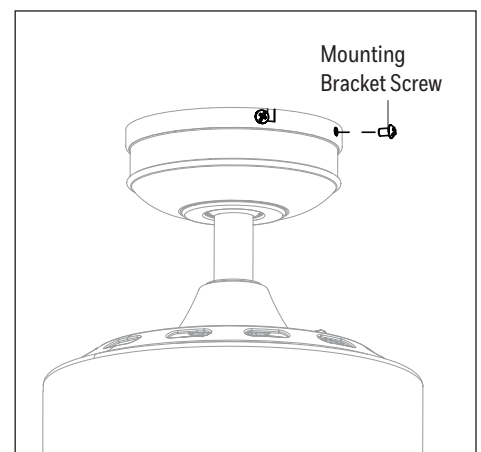

Figure 5.3
- Install the two previously removed mounting bracket screws in the round holes. Securely tighten all mounting bracket screws (Figure 5.3).